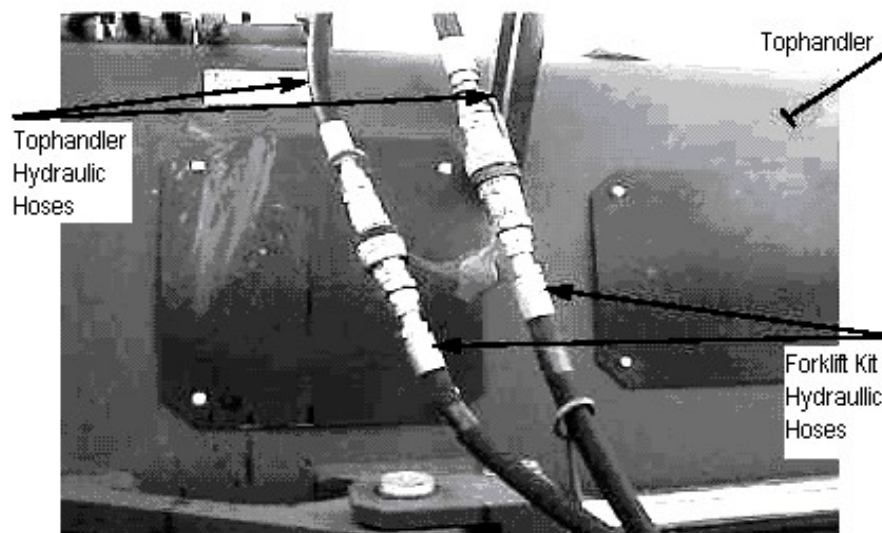

Figure 3-188
5. Remove protective caps from forklift kit hydraulic hose connectors and connect the two forklift kit hydraulic hose quick disconnects to the hydraulic hose quick disconnects that were disconnected from the tophandler (see Figure 3-188).